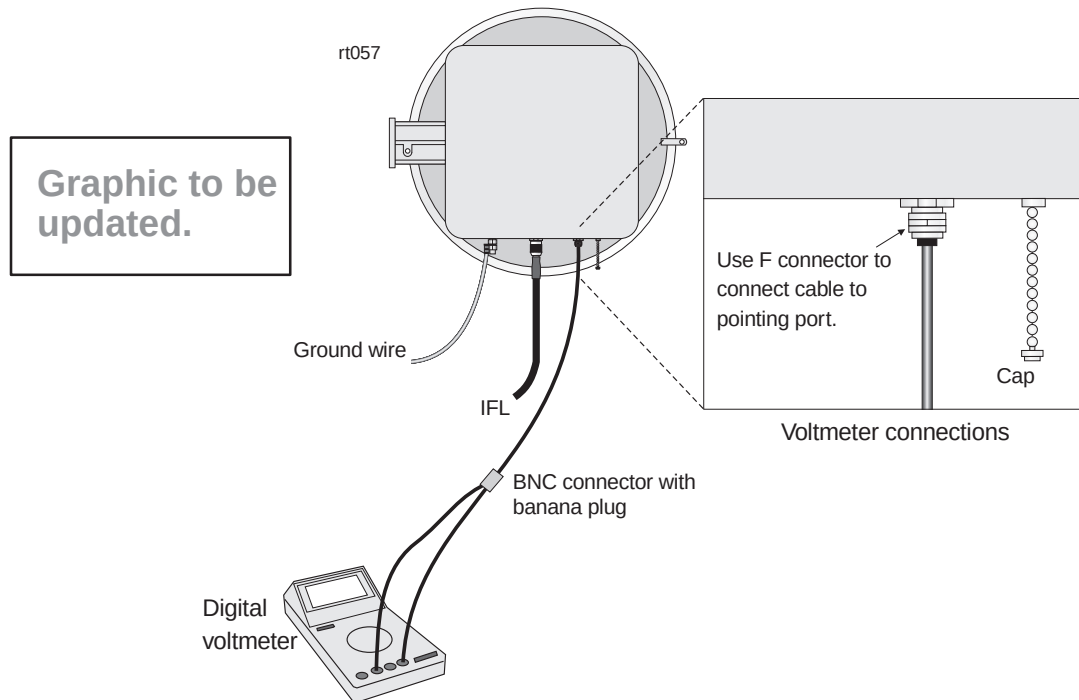

Figure 7-6 Connecting the digital voltmeter to the ODU
10. Connect a digital voltmeter to the F connector on the ODU, as shown in figure 7-6, and select the 0 to 10 volt or 0 to 5 volt range.